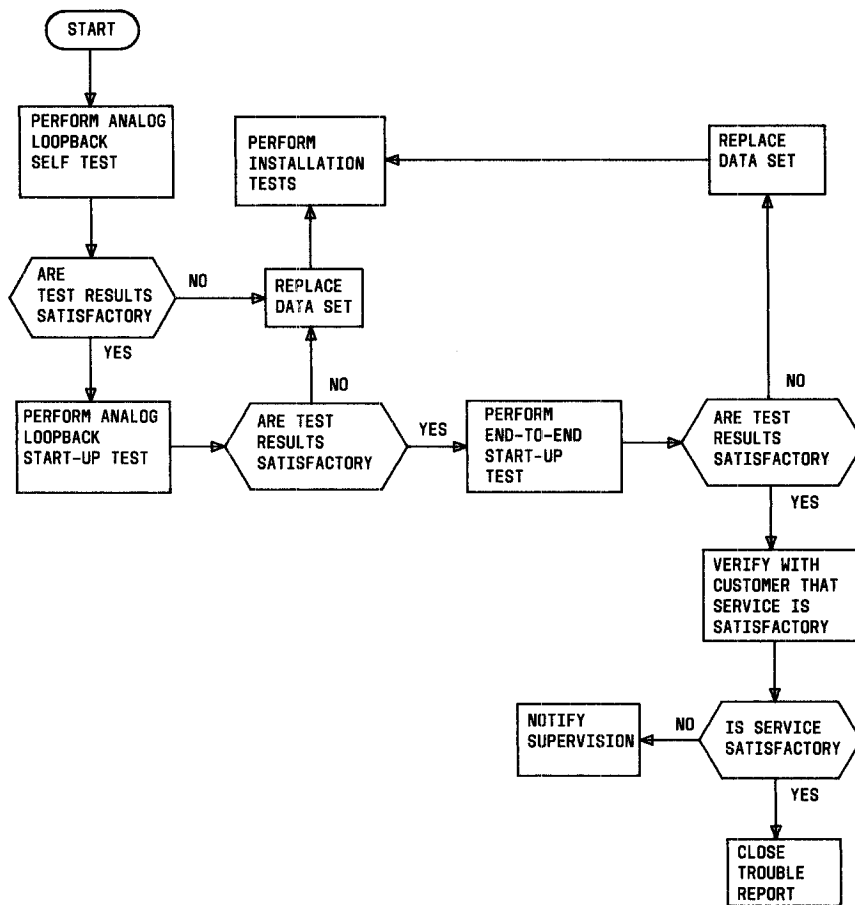
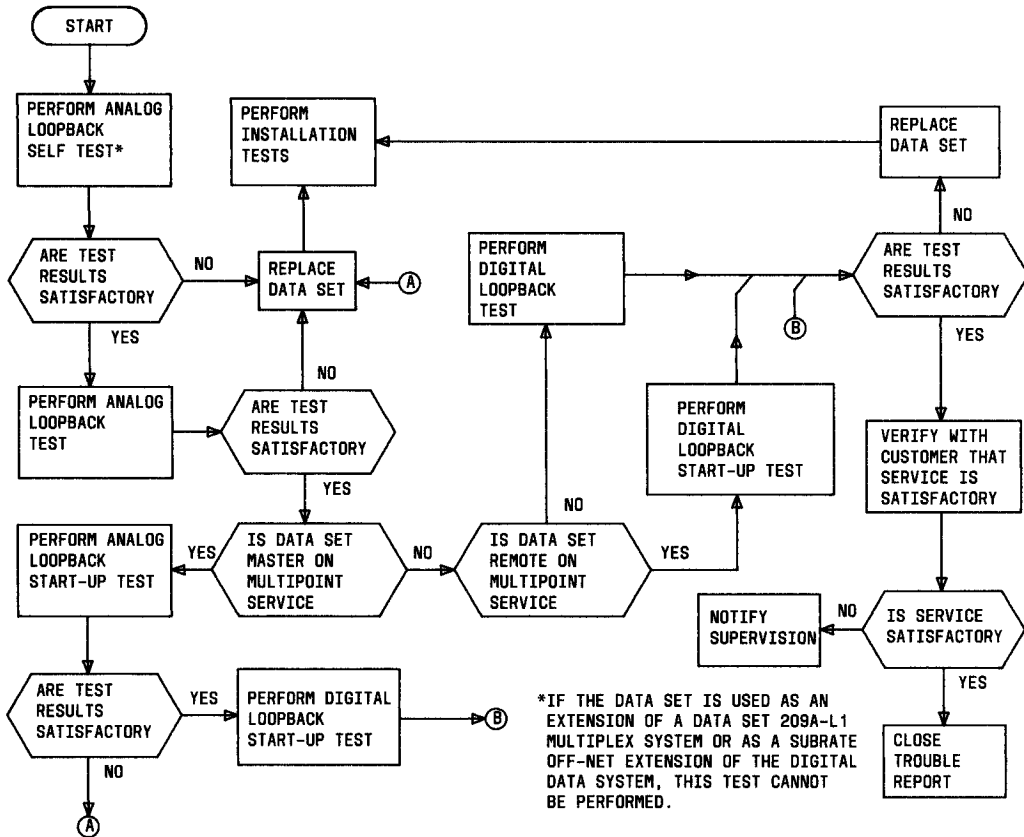

Fig. 6—Maintenance Test Sequence (2-Wire Private Line)
Fig. 7—Maintenance Test Sequence (4-Wire Private Line)
**3.04** Refer to Fig. 6 (2-wire private line) and Fig. 7 (4-wire private line) for the sequence in which tests are to be performed by the telco employee at the data station. If the data set is replaced, the defective data set should be tagged